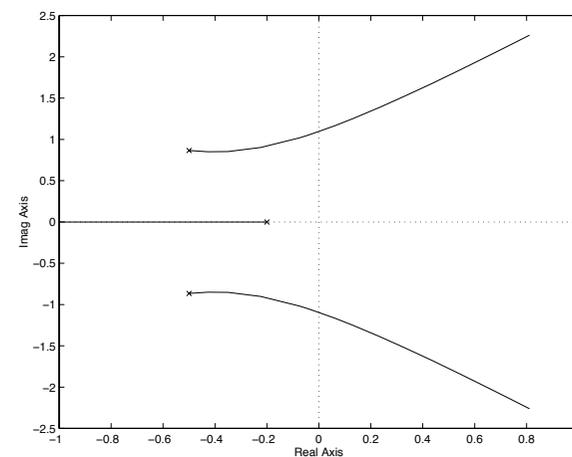

Figure 3.21a
3.21 a) The root locus with respect to  $K_P$  is shown in Figure 3.21a. When  $K_P$  increases the two complex poles move towards the imaginary axis, that is, the closed loop system becomes more oscillatory. Finally, for  $K_P \approx 6.2$ , the poles cross the imaginary axis and the closed loop system becomes unstable. This result is in accordance with Problem 3.4. For small values of  $K_P$  the properties of the step response are mainly determined by the real pole close to the origin. For larger values the complex poles start to dominate and when the complex poles cross the imaginary axis the amplitude of the oscillations in the step response increases and the system becomes unstable.